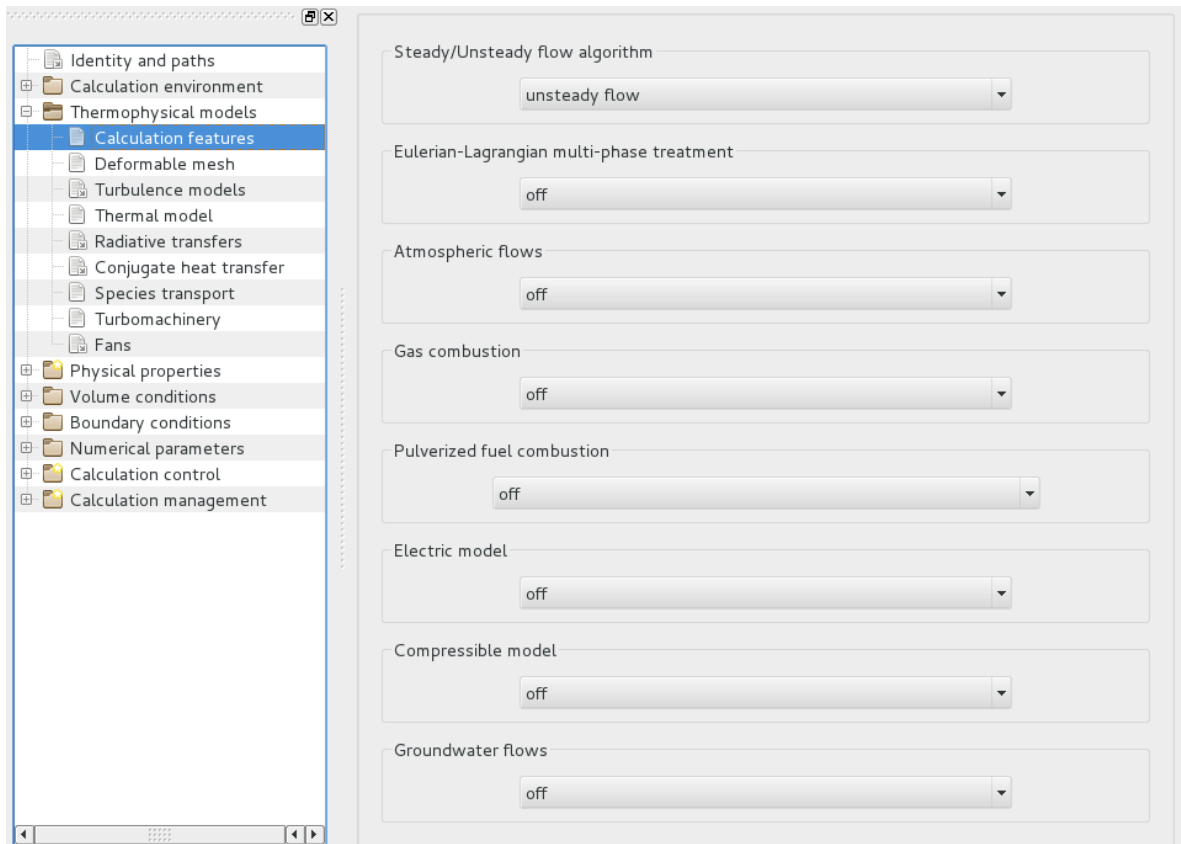
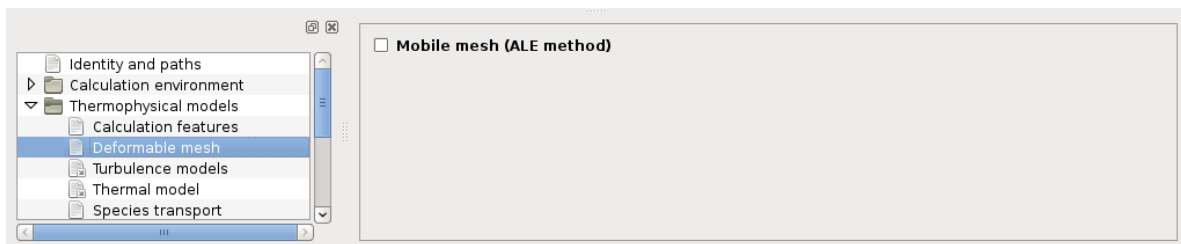
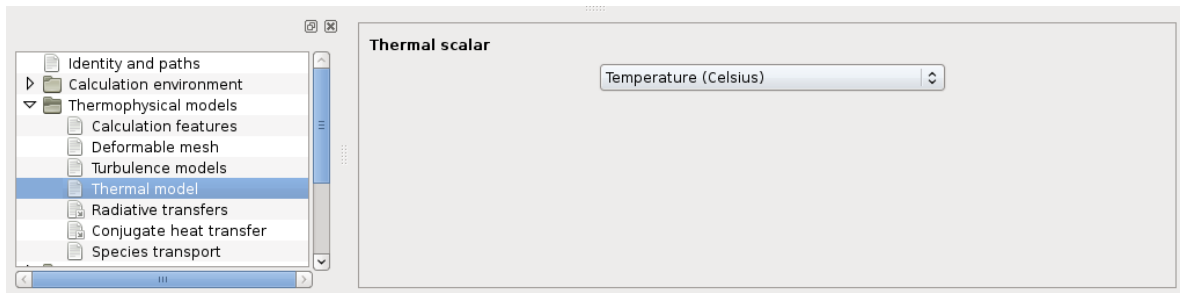
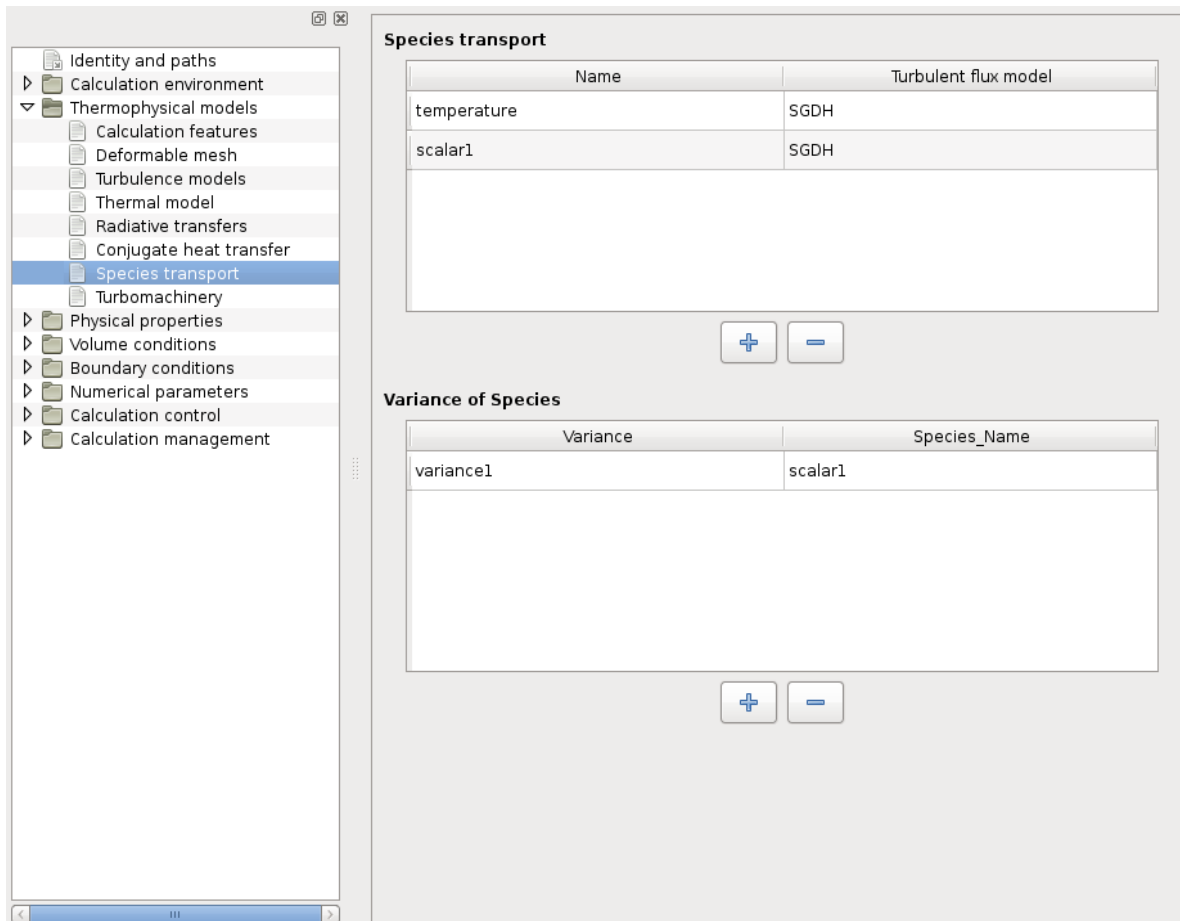

Figure 10: Calculation features options
Figure 11: Mobile mesh option
Figure 13: Thermal scalar selection
Figure 14: Definition of the transported species/scalars
This operation is done in the Graphical User Interface (GUI) or by using the user subroutines in `cs_user_parameters.f90`. In the GUI, the initialisation is performed by filling the parameters displayed in Figure 10 to 27. If the option 'Mobile mesh' is activated in Figure 11, please see Section 7.11.4 for more details. The headings filled for the initialisation of the main parameters are the followings:
- Thermophysical model options: Steady or unsteady algorithm, specific physics, ALE mobile mesh, turbulence model, thermal model and species transport (definition of the scalars and their variances), see Figure 10 to Figure 14. If a thermal scalar, temperature or enthalpy, is selected, two other headings on conjugate heat transfer and radiative transfers can be filled in (see Figure 13).